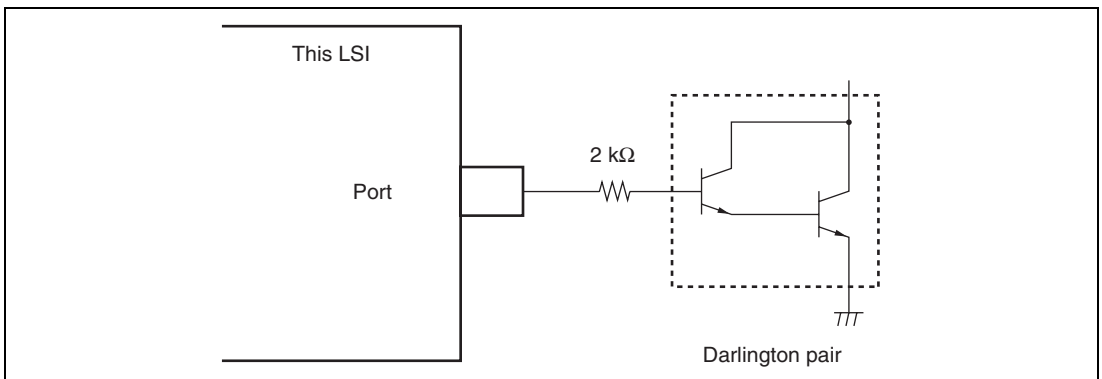

Figure 20.1 Darlington Pair Driving Circuit (Example)
2. When driving a Darlington pair or LED, always insert a current-limiting resistor in the output line, as shown in figures 20.1 and 20.2.